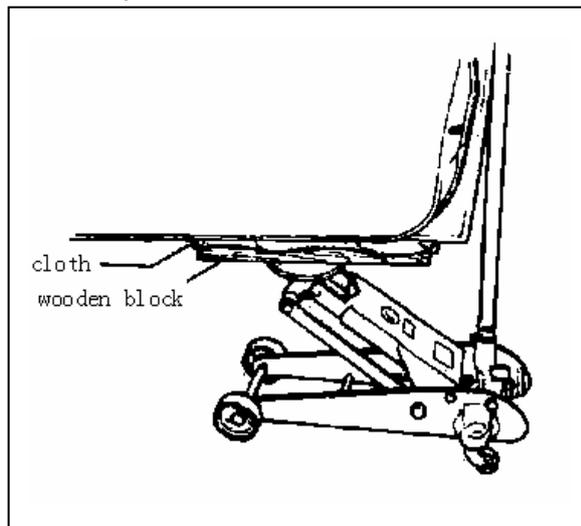

Fig. 19-22
- (1) Front fender
- (2) Harness connector
- (3) Bolt for stopper of the body
- (4) Bolts for hinge of the body
- (5) Door assy
- (6) Support the door assy using a jack with a piece of wood placed between the jack and door assy as shown in Fig.19-22.